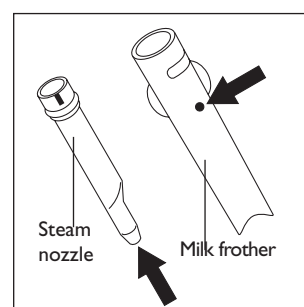

Fig. 27
- Check that the two holes indicated by the arrows in Fig. 27 are not clogged. If necessary, clean them using a needle or pin.